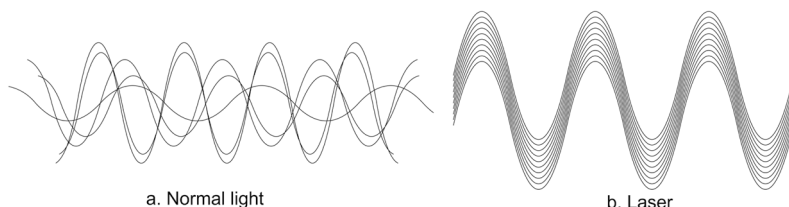

Fig 7.12 Normal and laser light
- **Monochromatic:** Laser light is highly monochromatic, the wavelength spread of laser light is of the order of $0.01 \text{ \AA}$, whereas ordinary light white light source has wavelength spread (Fig 7.12 a) of $3000 \text{ \AA}$ (Fig 7.12 a).
- **Coherent:** Laser light is highly coherent. We can observe interference phenomena by laser beam. All the waves composing laser beam have same phase (Fig 7.12 b).